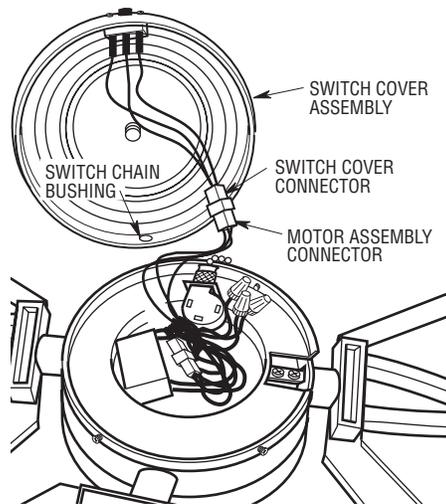

Figure 3
- 5. Securely engage the 3-pin connector from the fan motor assembly with the switch cover connector. The connectors are keyed and must be mated correctly before they can be engaged (Figure 3).